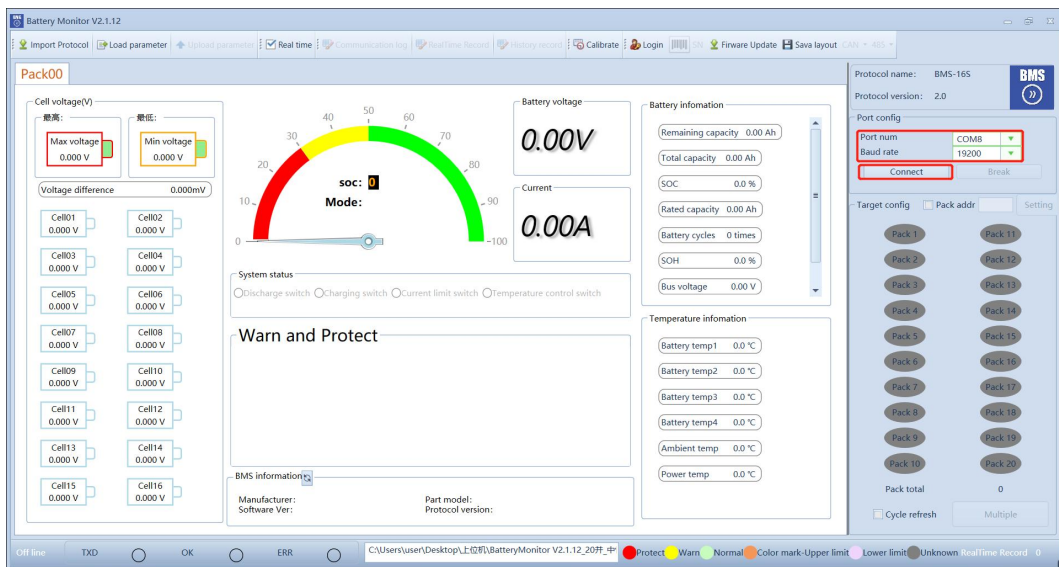

Figure 4-1
- 3) Click on the connection, Figure 4-1